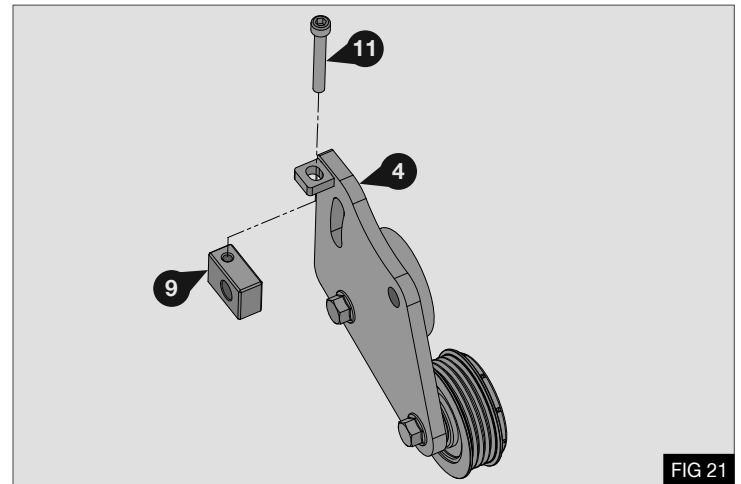

FIG 21
4. Assemble adjuster block (9) onto adjuster plate (4) using M6 x 45 cap head bolt (11) - Fig 21